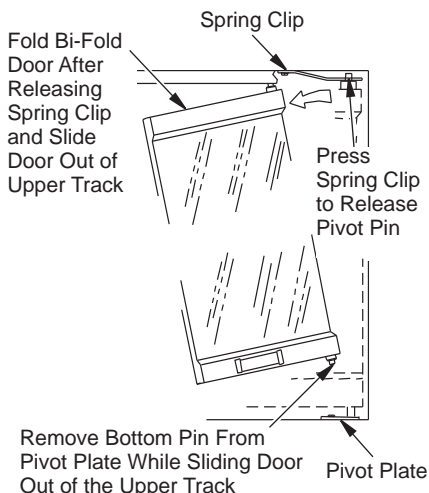

Figure 37 - Removing Glass Doors
2. Fully fold frame assembly and slide upper edge towards center of firebox opening until guide pins are free of frame rail (see Figure 37).